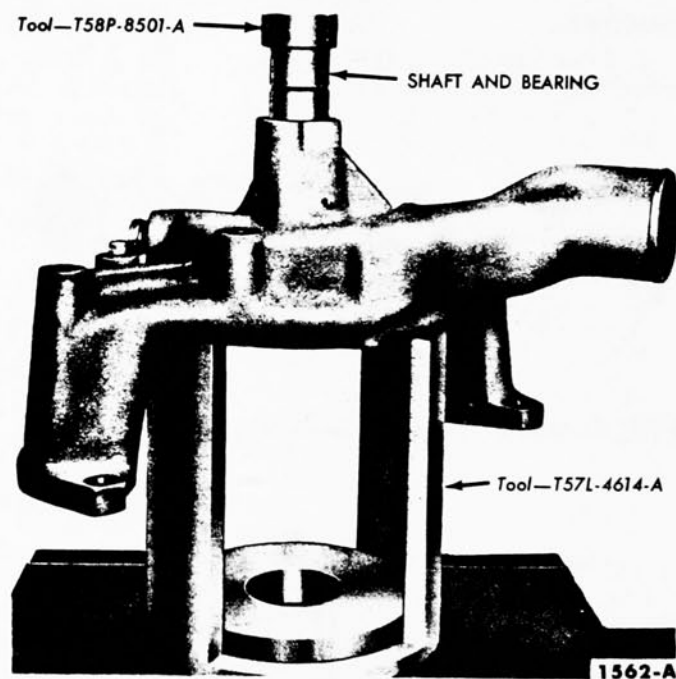

FIG. 10—Shaft Installation
4. Coat the bearing outer diameter lightly with grease, and press the shaft and bearing into the pump housing (Fig. 10).